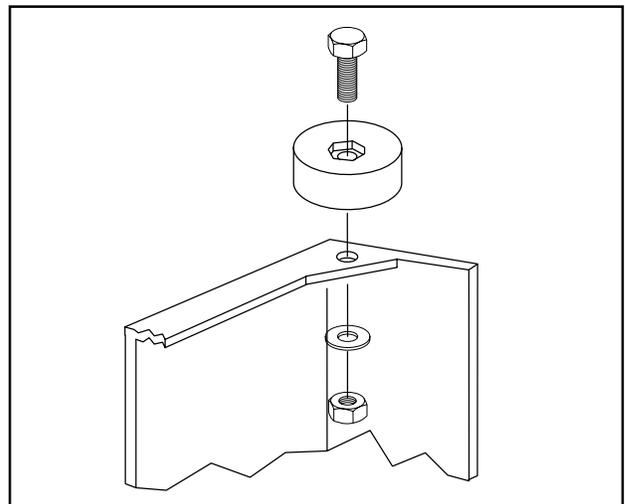

Figure 3. Attach rubber feet first.
1. Start with the stand panel with the switch mounted in it. Turn the panel upside down and attach the rubber feet using (2) ¼"-20 x 1" Phillips® head screws, (2) flat washers and (2) hex nuts provided. Tighten down. **See Figure 3.** Repeat this step with the second stand panel.